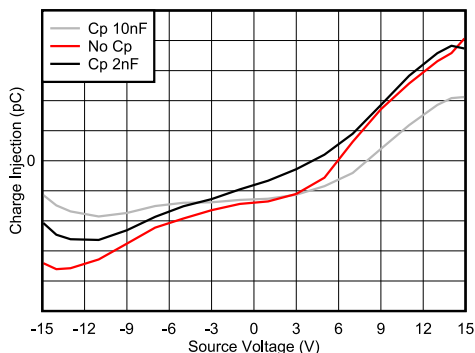

图 9-3. Charge Injection Compensation
The TMUX720x contains specialized architecture to reduce charge injection on the Drain (D). To further reduce charge injection in a sensitive application, a compensation capacitor (C_p) can be added on the Source (S_x). This will ensure that excess charge from the switch transition will be pushed into the compensation capacitor on the Source (S_x) instead of the Drain (D). As a general rule of thumb, C_p should be 20x larger than the equivalent load capacitance on the Drain (D). 图 9-3 shows charge injection variation with source voltage with different compensation capacitors on the Source side.